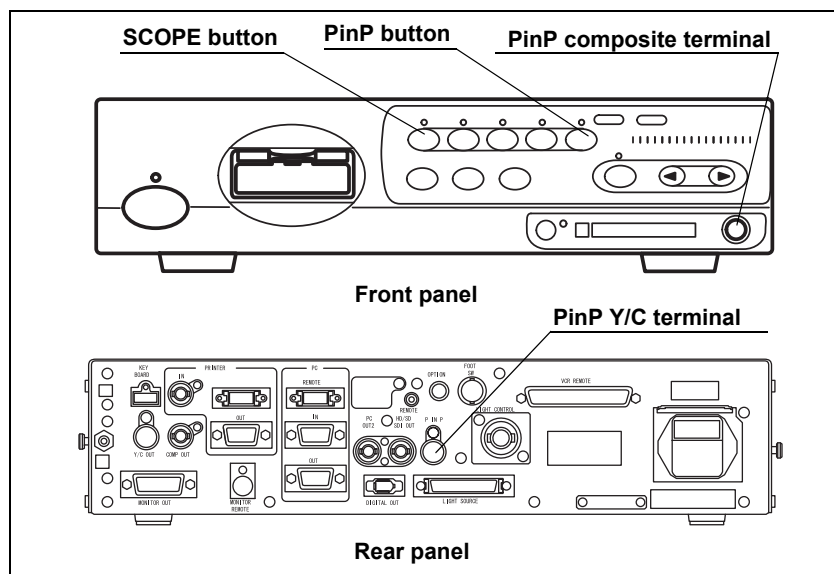

Figure 5.2
1. Confirm that the external device is connected to either the PinP composite terminal on the front panel or the PinP Y/C terminal on the rear panel (see Figure 5.2).